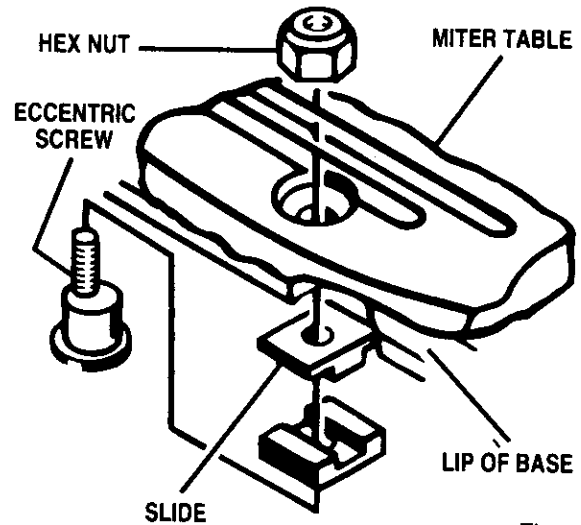

Figure 58
- There are four slides located under the sliding miter table. These slides let the miter table move on the base. Three slides are mounted on eccentric screws that can be adjusted by loosening the hex nuts on top of the miter table. See Figure 58.
- Loosen the rear hex nuts (Q) on top of sliding miter table for this adjustment procedure.